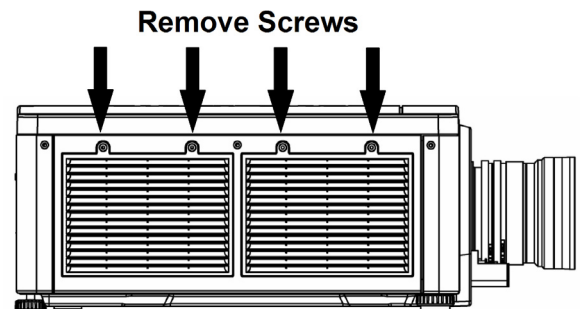

FIGURE 4-1 REPLACE FILTER
1. Unscrew the 2 captive screws at the top of each filter door (*Figure 4-1*). Allow the door to rest down and away from the projector.
1. Unscrew the 2 captive screws at the top of each filter door (*Figure 4-1*). Allow the door to rest down, away from the projector.